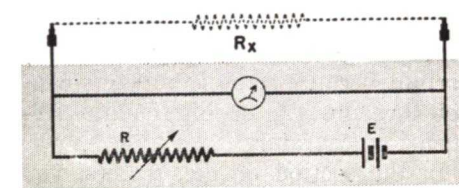

FIG. 27. This shunt ohmmeter is excellent for low-resistance values.
**Low-Range Ohmmeter.** A shunt-type ohmmeter circuit, shown in Fig. 27, is also used to measure low values of resistance. The resistor  $R$  is adjusted until the meter reads full-scale when the test leads are connected to the resistance being measured, a lower meter reading results, because the unknown resistance  $R_X$  is connected in parallel with the meter and acts as a shunt across the meter. When the test leads are touched together (zero ohms), the meter will read zero at the extreme left of the scale.